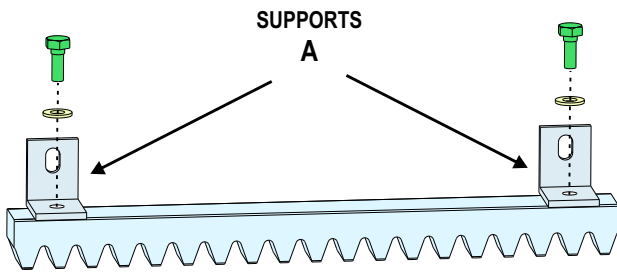

Fig. 15
- 6.2. Fix the two metal supports «A» on each gear rack element by the use of the special screws - Fig. 15